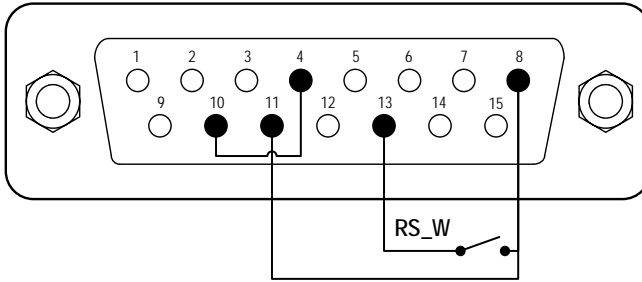
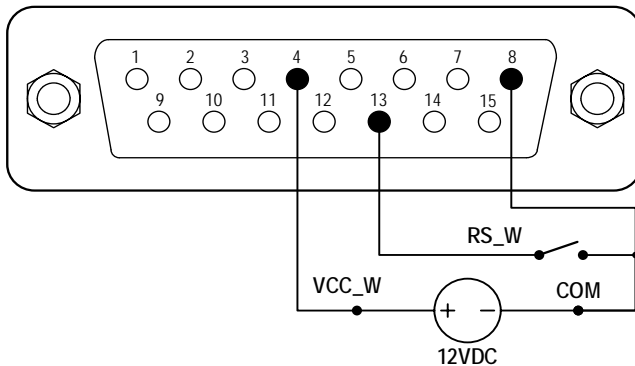

Figure 22. Footswitch with internal 12V Power Source
Figure 23. Footswitch with External 12V Power Source
- 1) Switch the power of the pump off. Wire the DB15 connector as shown on *Figure 22* or *Figure 23*, and connect it to the DB15 port on the rear of the pump.